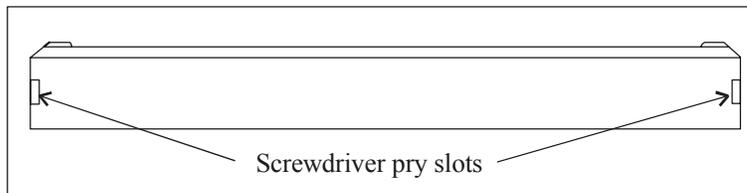

Figure 5-5
2. Remove the front cover plate below the door. There are small flatblade screwdriver pry slots on each end of the plate to help remove it. See Figure 5-5.